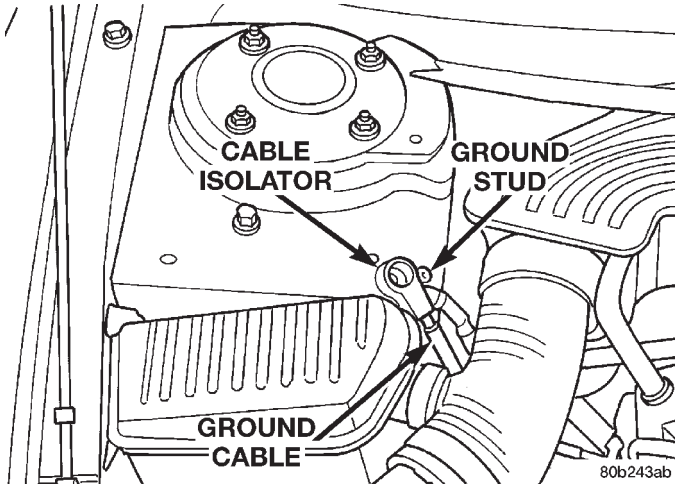

Fig. 3 Correctly Isolated Remote Ground Cable
(1) Remove the battery ground cable from the ground stud on the shock tower and isolate the ground cable by installing the cable isolator on the ground stud (Fig. 3).